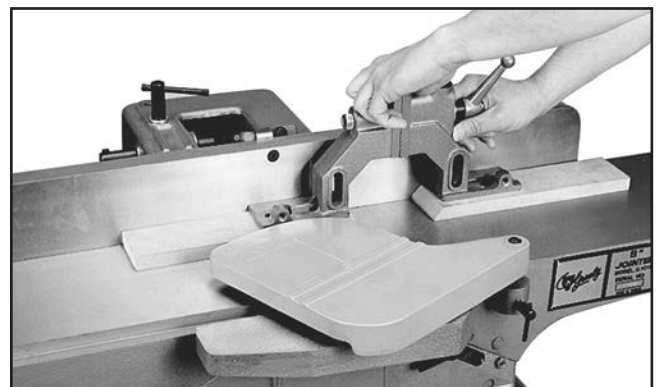

Figure 71. Example of resurfacing fences on a jointer.
3. If fences are not coplanar with each other, remove both fences and resurface as one unit. You can perform this operation on a jointer as shown in **Figure 71**.